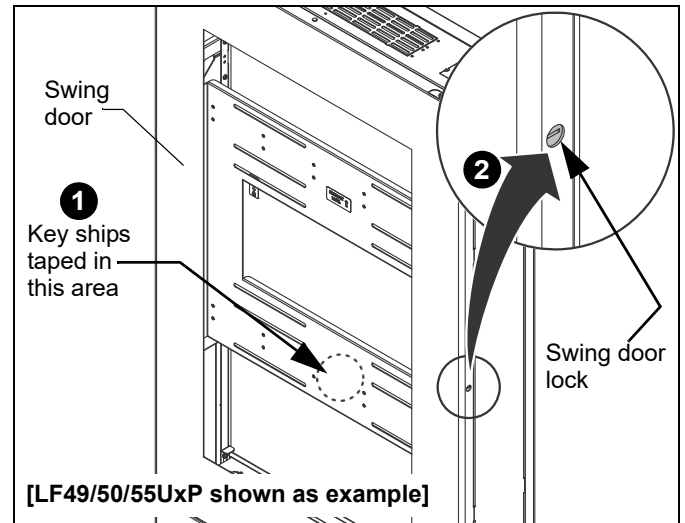

Figure 1
1. Remove key from display frame. (See Figure 1)
2. Use the key to unlock and open the swing door. (See Figure 1)